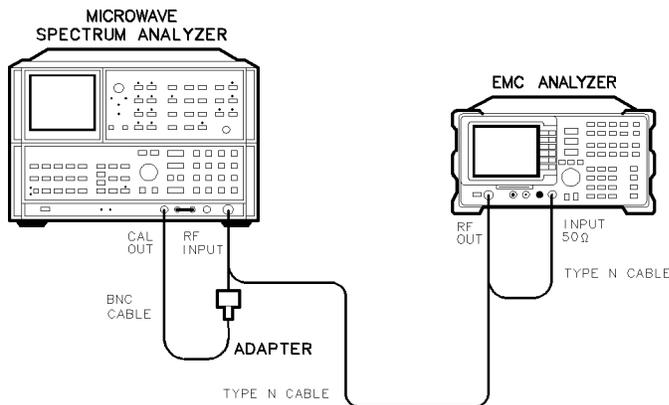

Figure 2-79. Harmonic Spurious Outputs Test Setup, HP 8591EM
1. Connect the Type N cable between the RF OUT 50 Ω and INPUT 50 Ω connectors on the EMC analyzer. See Figure 2-79.
5. Connect the Type N cable from the tracking generator output to the microwave spectrum analyzer RF INPUT as shown in Figure 2-79.